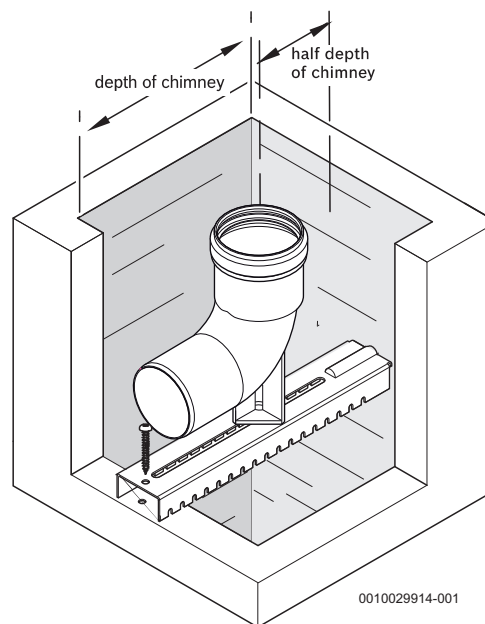

Fig. 11 Place the elbow assembly into the opening
- ▶ Secure the assembly with a screw as shown in fig. 11